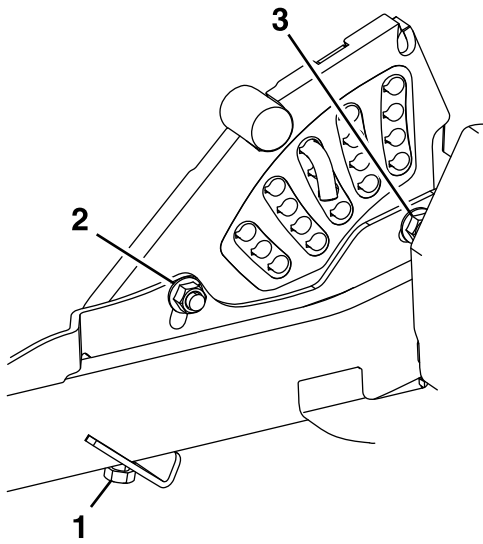

Figure 74
7. If the deck is too low, tighten the single-point adjustment bolt by rotating it clockwise (Figure 74).